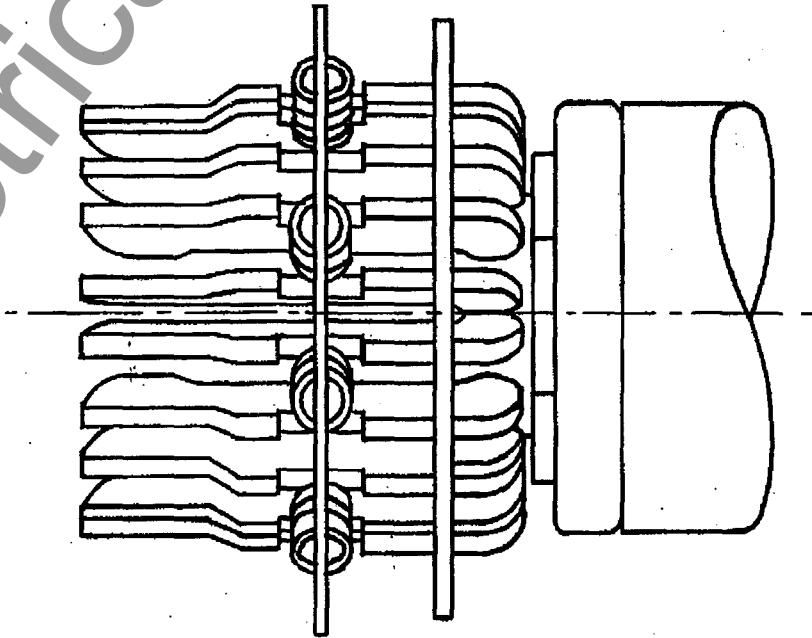

FIG. 8B
**Top end of bushing stud "Plain" as shown in Figure 8B.